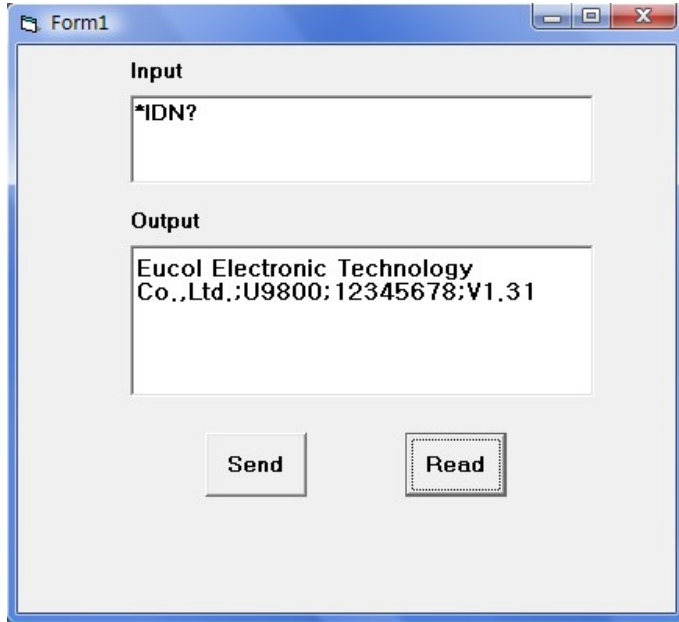

Figure 4-2-3
6. Save and run the project, you will get a single executable program. When the oscilloscope has been successfully connected with PC, you can input a command such as *IDN? (the default input command) in Input edit box and click Send and Read successively, the oscilloscope will return the result which will be displayed in Output edit box. See figure 4-2-3.